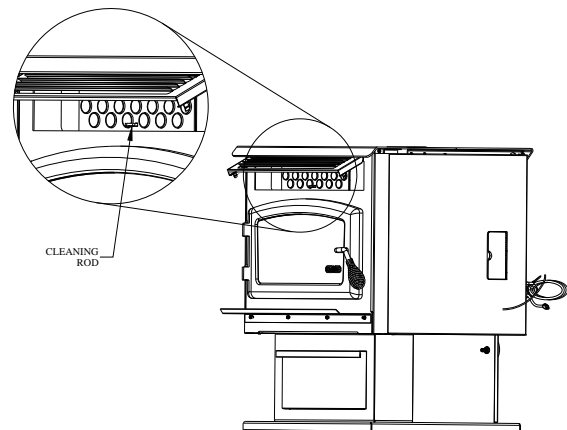

FIGURE 19
- Heat Exchange Tubes** – Your ECO-45 stove is designed with a build-in heat exchanger tube cleaner. This should be used weekly to remove accumulated ash on the tubes. To clean the heat exchanger, open the door and grab the cleaning rod located behind the louvers (just above the stove's door) and push it forward. Close the door. Slide the cleaning rod back and forth two or three times from front to back (refer to figure 19). When finished, push the cleaning rod back in, behind the louvers.